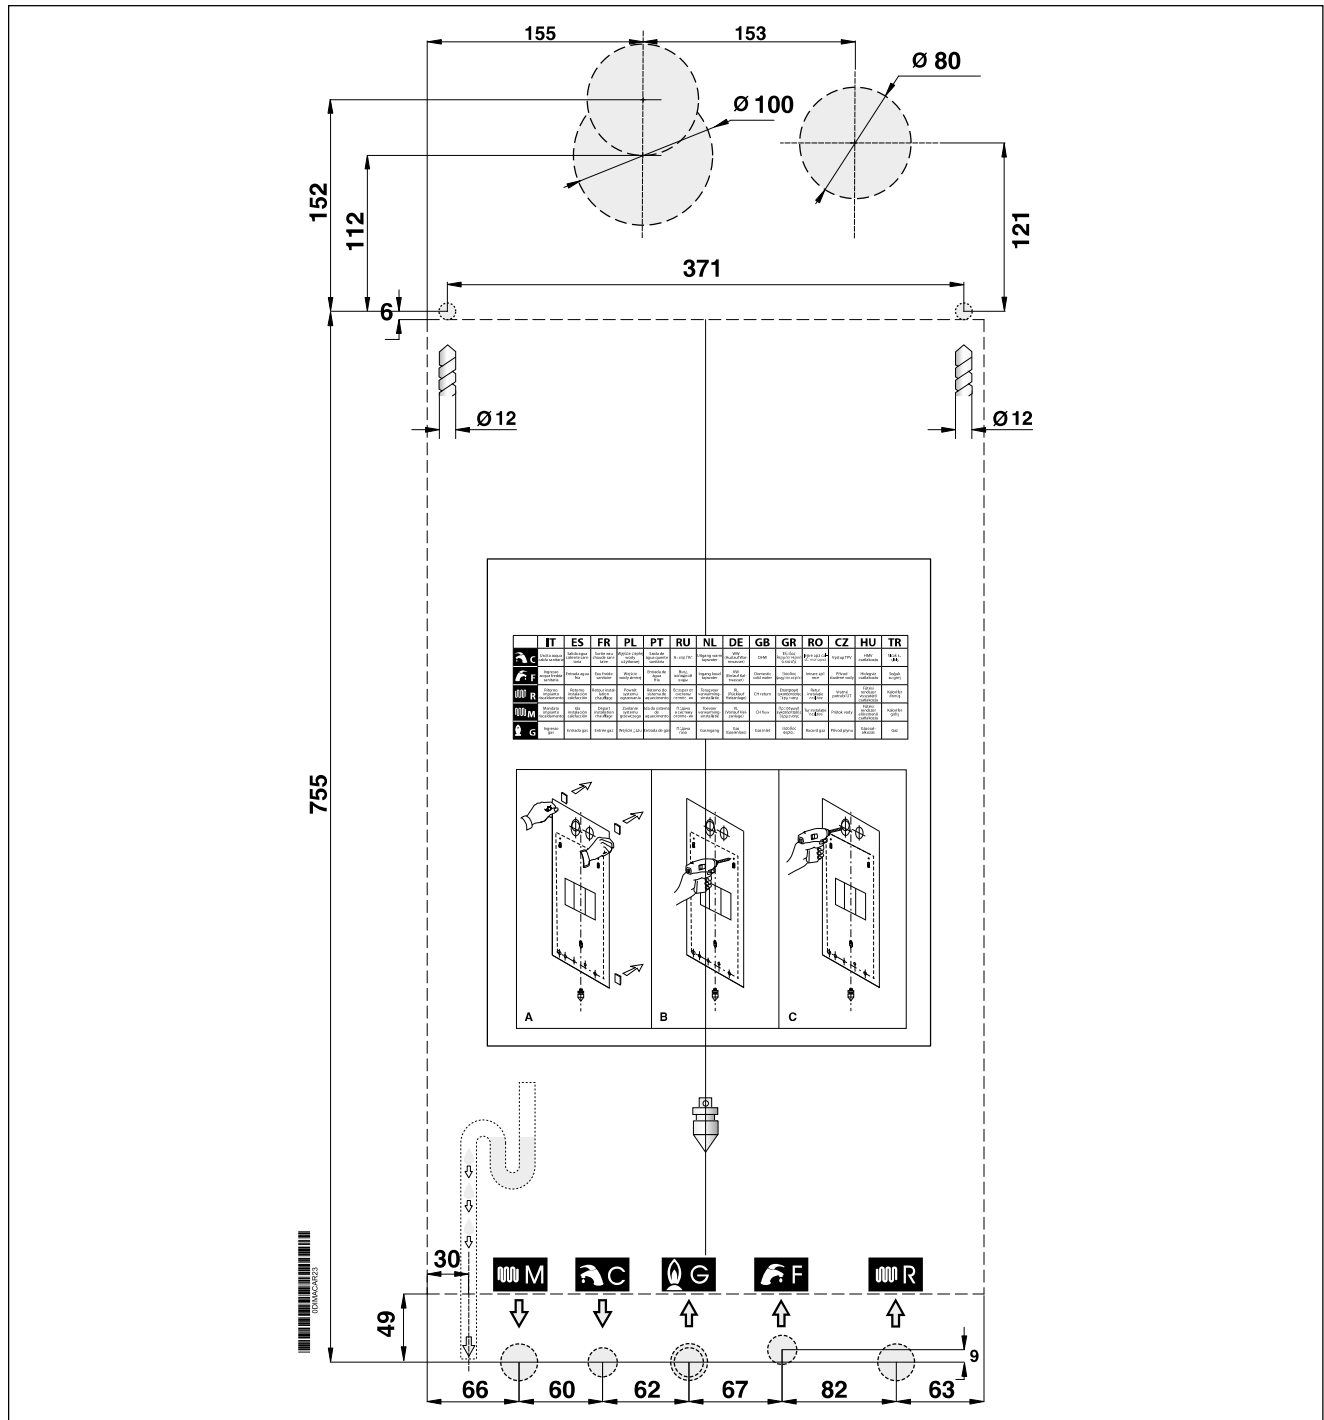

Fig. 9 Paper template
- the template for mounting the boiler on a wall (see Fig. 9 Paper template).
Each boiler is supplied with a paper template, found inside the packaging (see Fig. 9 Paper template).